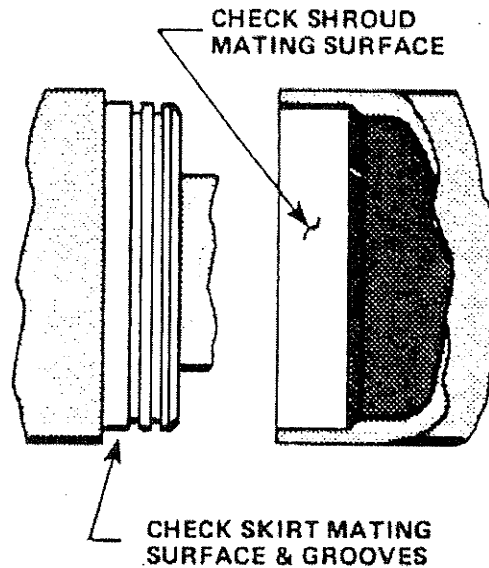

Figure 16 Examine Vacuum Shroud's Mating Surfaces
2. Examine the shroud's interior mating surface for foreign matter, burrs or scratches which could degrade sealing. See Figure 16.